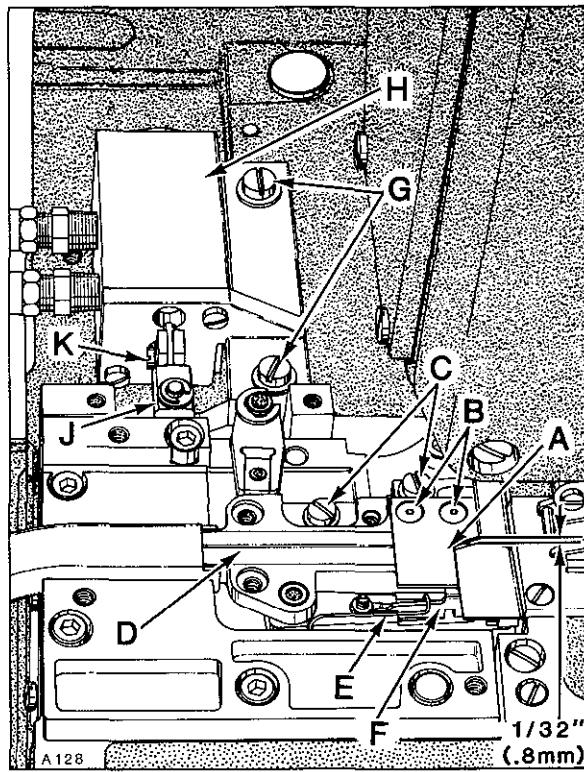

Fig. 25
Upper knife (A, Fig. 25) can be replaced by removing two screws (B). To replace lower knife, the upper knife must be removed and rear suction tube cover. Loosen two screws (C) and slide housing (D) towards the rear. Remove screw (A, Fig. 26) and lift up thread inlet (B). Unhook knife spring (E, Fig. 25) and remove lower knife (F). Reassemble knives in reverse manner. Reassemble thread inlet (B, Fig. 26) and slide housing (D, Fig. 25) forward against rear of throat plate; tighten two screws (C).
IMPORTANT: Be sure that lower knife does NOT strike against knife housing or feed chamber cover. Adjustment should be accomplished by loosening two screws (G, Fig. 25) and reposition air motor (H) left or right slightly, but under extreme circumstances it may become necessary to shorten the stroke of lower knife travel by repositioning coupling (J).
Carefully press against lower knife (F, Fig. 25) until air motor stalls. With treadle still depressed, check the knife cross over. Cross over of lower knife to upper knife is positioned correctly when the lower knife is $\frac{1}{32}$ inch (.8mm) from the front of upper knife as shown in Figure 25. If adjustment is required, loosen screw (K) and reposition coupling (J) as required to obtain specified dimension.
Shear angle should be .003 inch (.076mm), measured at rear cutting edge of lower knife (F, Fig. 25) and cutting edge of upper knife (A). Adjustment can be made by loosening nut (A, Fig. 27) and turning screw (B) clockwise to increase the angle or counterclockwise to decrease. Lock nut (A) after shear angle is set.